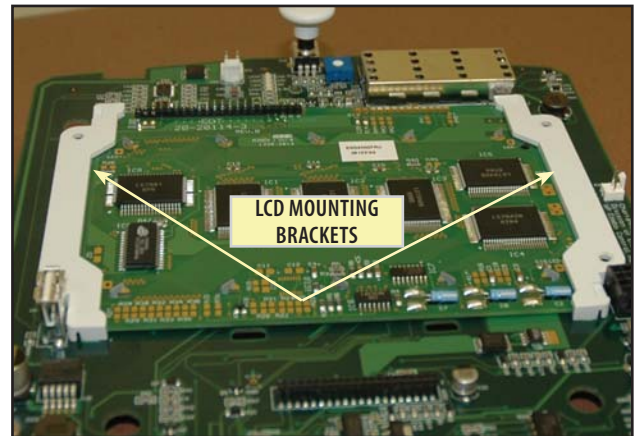

FIGURE 6.23
6. Once the LCD is removed from the Control Board, **per step 5**, remove the LCD mounting bracket from both sides of the LCD. **See Figure 6.23.**